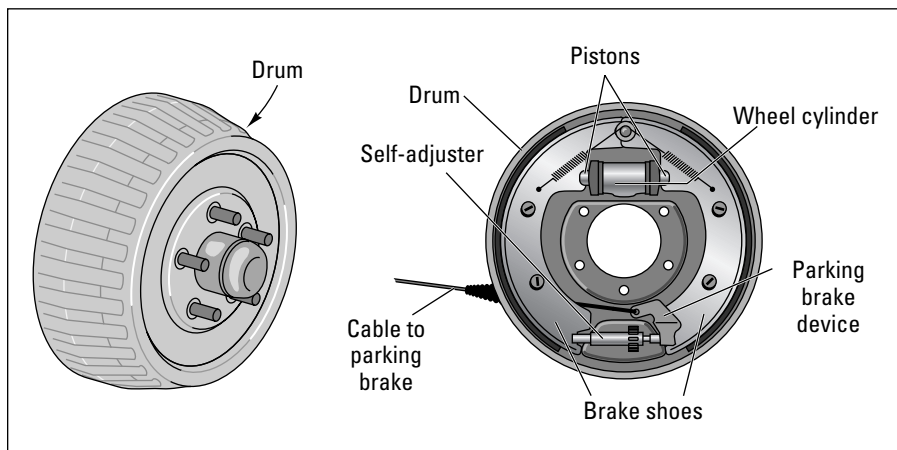

Figure 15-5: Anatomy of a drum brake.
11. Look at the rest of your brakes, which are still attached to the brake backing plate (see Figure 15-5).
12. **Take a look at the *self-adjusting devices* on your brakes. (Figure 15-5 shows one of the most common self-adjusters.) Trace the cable from the anchor pin above the wheel cylinder, around the side of the backing plate, to the adjuster at the bottom of the plate.**